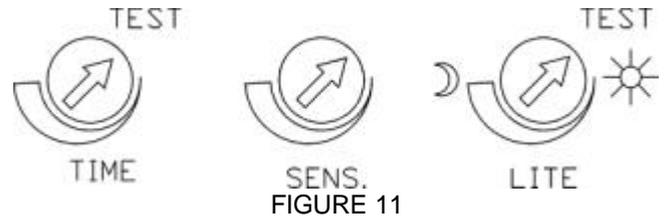

FIGURE 11
(1) TEST MODE
- Turn the Lite control and the Time control anti-clockwise to the edge – the TEST position. Set the Sens. Control to its mid-point. (FIGURE 11)